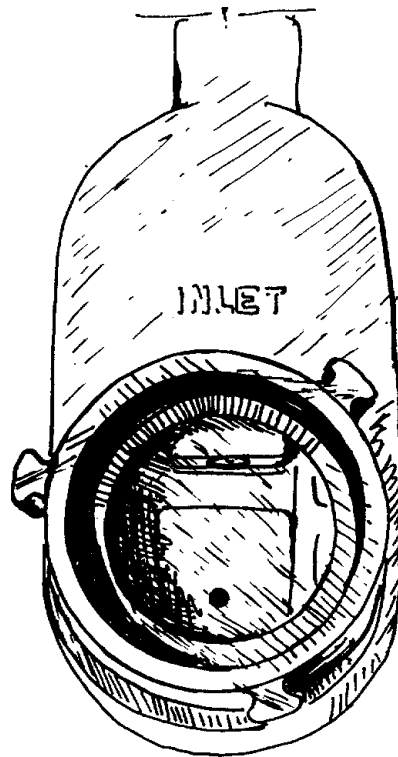

Fig. 7-28
3. The one way gate has a small opening in the gate (see Fig. 7-28). This opening permits the pressure to build while using a minimum amount of water. This feature will minimize the reaction if a length should burst.